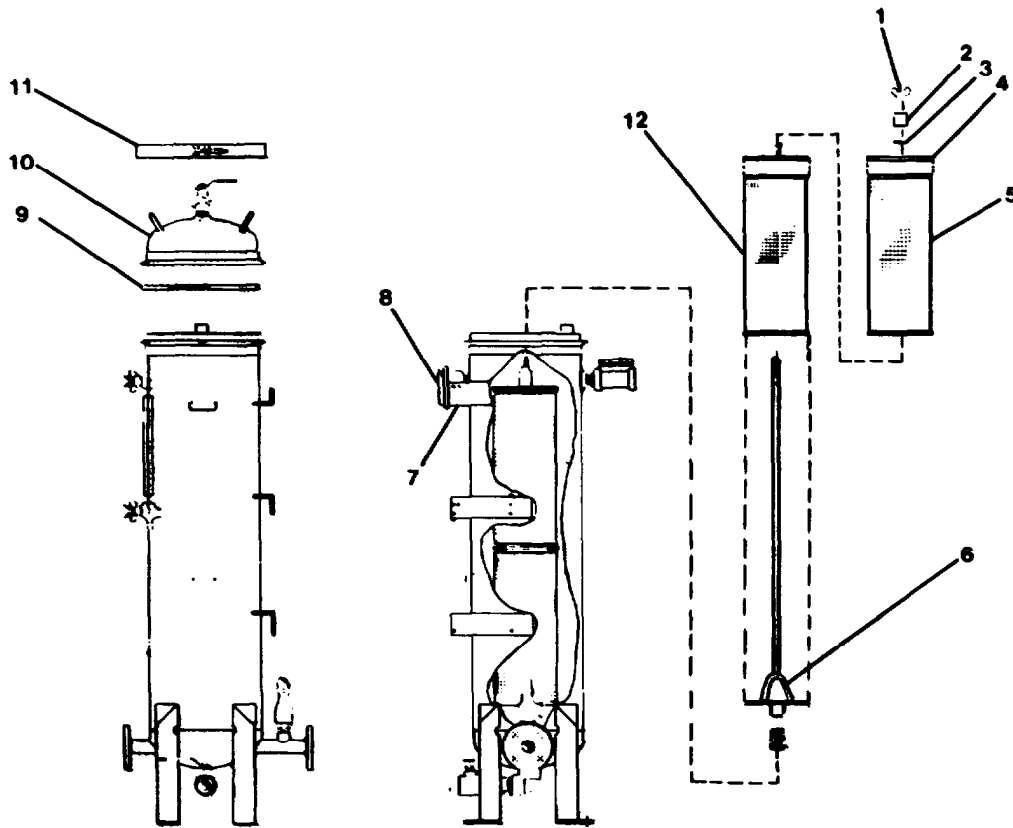

FIGURE 2-23. Filter Removal (2nd Stage).
- (1) loosen and remove clamp (11, FIGURE 2-23) securing cover (10) to second stage vessel.
- (2) Remove cover (10) and preformed packing (9).
- (3) loosen and remove self-locking wing nut (1) from threaded filter support (6).
- (4) Remove packing retainer (2), preformed packing (3) and hold down plate (4).
- (5) Remove fluid filter elements (5) and (12).
- (6) Unscrew and remove liquid transmitter cover (8).
- (7) Tag and disconnect wires attached to transmitter terminals.
- (8) Unscrew liquid transmitter (7).